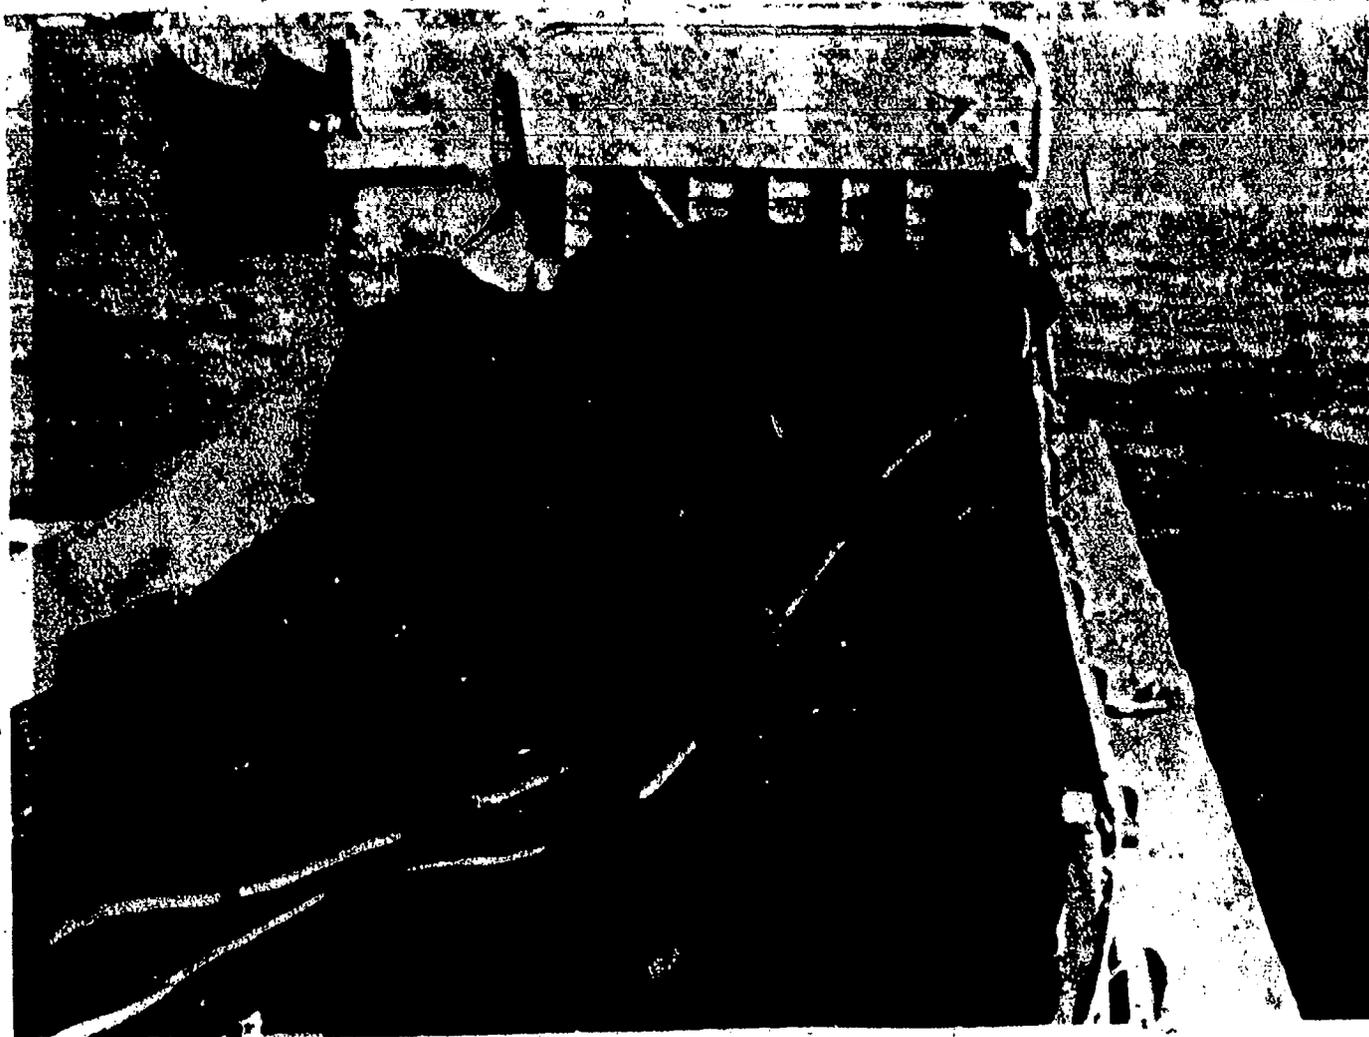

Fig 3-1. Floating line.
Floating-line method. Installing a floating line from ship to shore is a method used to replace the ferrying method. It consists of a 6-inch lightweight gasoline discharge hose in 250-foot lengths connected with aero-quip fittings. Tension on the hose is relieved by a 1/2-inch wire rope attached by cable clips to D-rings embedded in the hose. The assembled hose and relief cable are flaked down (a manner in which the hose is placed to eliminate any entanglements) in the landing craft and laid out over the stern as the craft moves from shore seaward (fig 3-1). (Some units may have the new hose reel which has 5,000 feet of 6-inch hose. This allows the hose to be laid much more quickly.) The tension line on each 250-foot section is attached to an anchor. Special floater hoses are attached to the assembly on 50-foot centers so that the hose is suspended approximately 2 to 3 feet below the surface when filled with fuel. Although this method is a major improvement over the ferrying method, it does have the following deficiencies: (1) installation of the hose from a landing craft in other than calm seas is difficult and hazardous; (2) the floating hose is vulnerable to enemy action, moderate seas and cross-traffic of surface craft; and (3) the hose is relatively easy to detect. One advantage of the floating-line method over the bottom-laid is that it can be installed much faster.